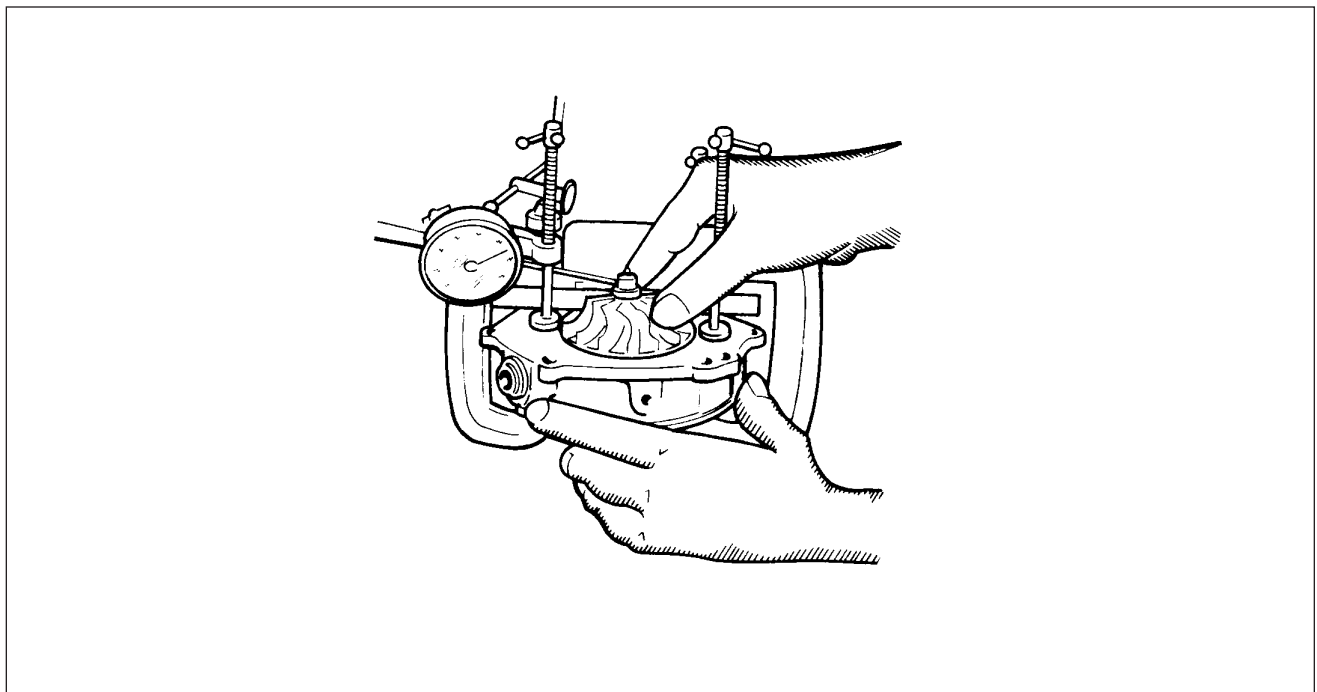

Figure 81-3. Measuring Turbine Shaft Radial Play
9. Reposition the dial indicator so that the contact point is resting on the flat side surface of the impeller nut as shown in Figure 81-3 and adjust the indicator dial at zero. Push from side to side as shown in Figure 81-3 to determine the radial play of the shaft. Rotate the shaft slightly to get minimum readings on the nut flat. Maximum allowable radial play is 0.022 inch. If radial play is excessive, parts are worn and the turbocharger must be rebuilt.